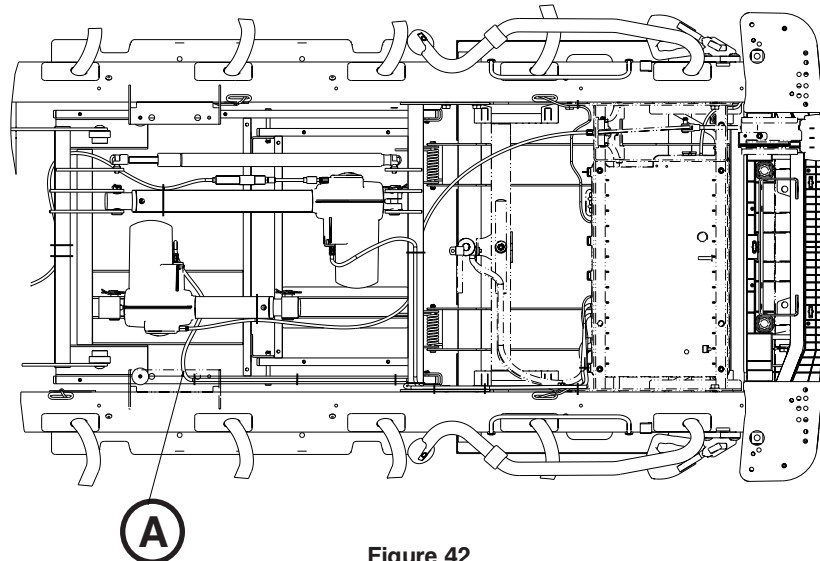

Figure 42
6. Using a small regular screwdriver, remove the actuator power cable retainer and unplug the power cable (A) (Figure 42).
- Reconnect the power cable (A) and reinsert the power cable retainer (Figure 42 on page 61).